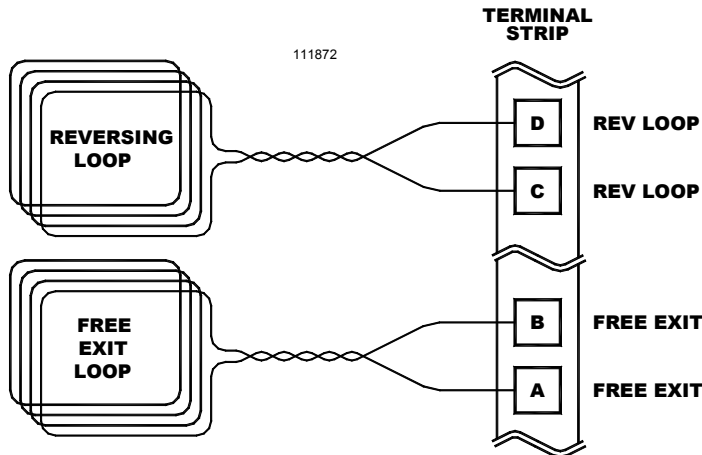
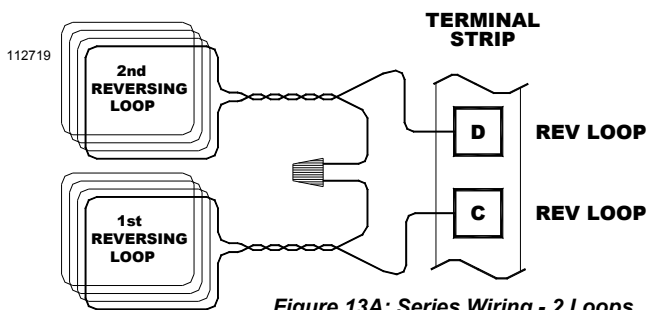

Figure 13: Wiring A Free Exit or Reversing Loop Detector
Figure 13A: Series Wiring - 2 Loops
See Figure 13 for instructions on wiring a 3-button station.
REVERSING LOOP VEHICLE DETECTOR: If a Reversing Loop Vehicle Detector is to be a part of this installation, start with this first. Install a 24 VAC powered, 11 pin (round configuration) vehicle detector module into the detector socket. The vehicle detector module must have a relay contact output. The Reversing Loop socket is pre-installed in the rear of the control panel and is the socket closest to the operator side wall. The actual loop is installed in the concrete or asphalt surface in accordance with the manufacturer's instructions and the information outlined earlier in this manual (see Page 7). Connect the wires from the actual Reversing loop to Terminals C and D, see Figure 13. If employing two (2) Reversing Loops as shown in the diagram on Page 7, and are connecting the loops to the same Loop Detector, wire in series as shown in Figure 13A.
FREE EXIT VEHICLE DETECTOR: If also employing a Free Exit Loop Vehicle Detector, install a 24 VAC powered, 11 pin (round configuration) vehicle detector module into the detector socket. The vehicle detector module must have a relay contact output. The Free Exit Loop socket is pre-installed in the rear of the control panel and is the socket towards the middle. The actual loop is installed in the concrete or asphalt surface in accordance with the manufacturer's instructions and the information outlined earlier in this manual (see Page 7). Connect the wires from the actual Free Exit loop to Terminals A and B, see Figure 13.